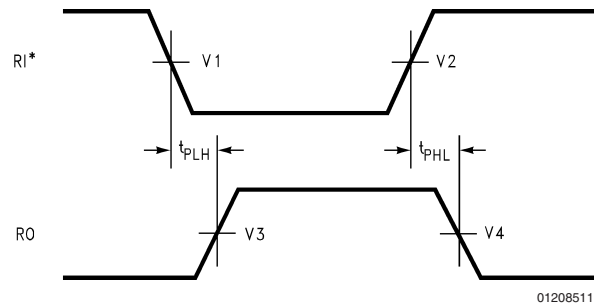

FIGURE 6. Propagation Delay Waveforms for Circuit 1 and Circuit 2 (See Figure 5)
In Figure 6, VX, where X is a number, is the waveform voltage level at which the propagation delay measurement either starts or stops. Furthermore, V1 and V2 are normally identical. The same is true for V3 and V4. However, as mentioned before, these levels are not standardized and may vary, even with similar devices from other companies. Also note,  $V_{REF}$  in Figure 1 should equal V1 and V2 in Figure 6.
**Note 6:** The DS89C386 is V.11 compatible.  $I_{IN}$  (RI input) is not  $\geq 0$  when  $V_{IN} = 3V$  due to internal failsafe bias resistors (see Figure 6). See ITU V.11 for complete conditions.